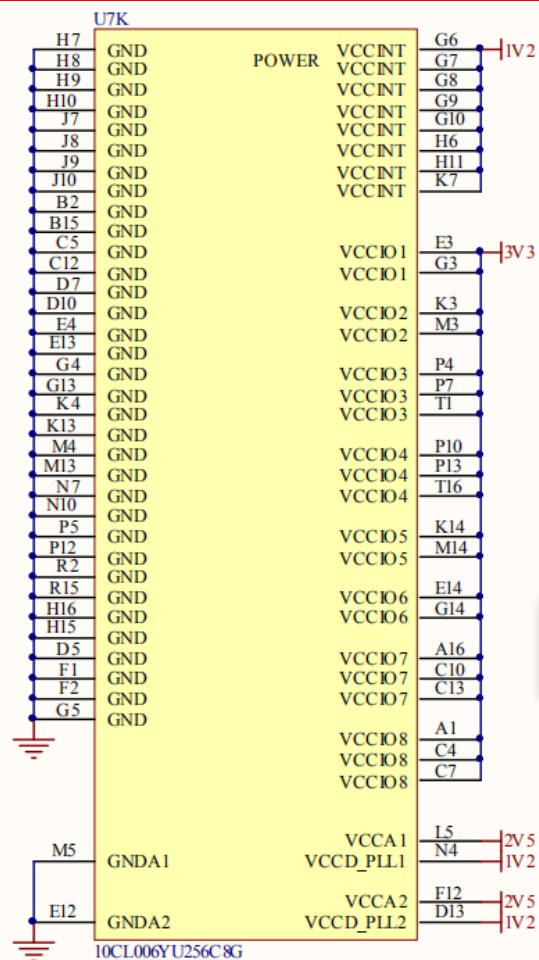

Figure 1-2 Power supply and ground pins of FPGA
4. Note that in order to ensure a smooth reference ground inside the FPGA, a lot of pins are connected to GND. The power connection diagram is shown in figure 1-2.